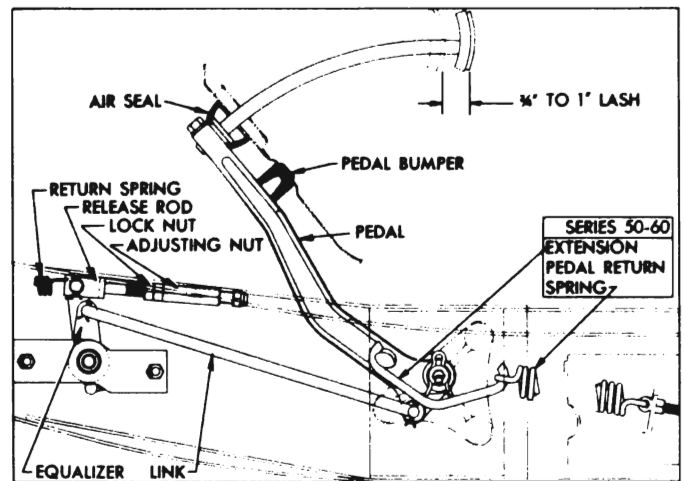

Figure 4-5—Clutch Pedal Lash Adjustment
On *Series 50-60* only, an over-center type actuating spring holds the pedal firmly against a rubber bumper on the toe board when clutch is in engaged position, and helps to reduce pedal pressure as it goes over center when clutch is disengaged. The actuating spring is attached to the frame by an eye bolt and to a pin on clutch pedal by an extension which straddles the pivot point of pedal. The spring and extension are positioned so that the pedal is pulled upward in the free position and pulled downward when depressed to disengage the clutch. See figure 4-5.
First make certain that clutch pedal is adjusted for specified lash (fig. 4-5) and that pedal is not binding. One type of clutch slippage is sometimes wrongly diagnosed as due to a weak clutch spring. This slippage occurs during gear shifting and full engagement of the clutch is not obtainable until the engine speed is reduced. After full engagement is obtained no further slippage occurs during acceleration or under full load. This condition is usually due to the clutch driven plate hub sticking on the splines of the transmission main drive gear. Correction can be made by removing the clutch and thoroughly cleaning splines of driven plate and main drive gear then applying a light coating of Lubriplate. On *Series 50-60*, make sure that release lever pins are not binding, and that pressure plate driving lugs are not binding in clutch cover.
1. Make certain that the return spring pulls clutch pedal firmly against pedal bumper on toe board when pedal is released. If pedal does not contact pedal bumper check pedal and linkage for binding or lack of lubrication. Check condition of return spring, and on *Series 50-60*, check condition of actuating spring and make sure that spring eye bolt is fully tightened. See figure 4-5.
3. If adjustment is necessary, loosen lock nut and turn adjusting nut on clutch release rod as required to secure $\frac{3}{4}$ " lash, then tighten lock nut securely. See figure 4-5.